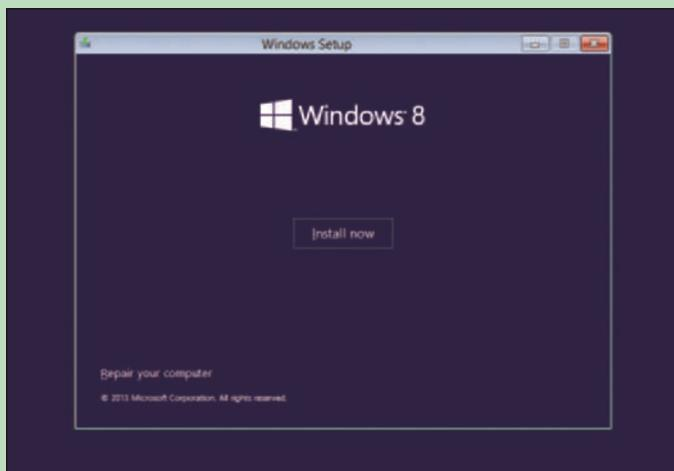
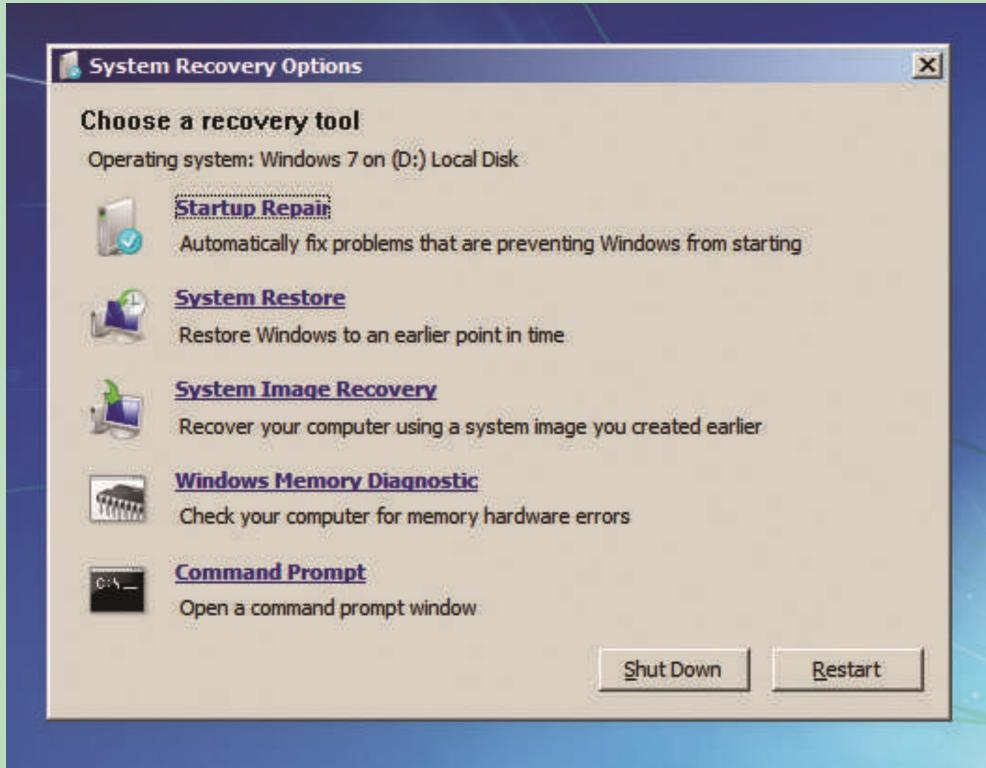
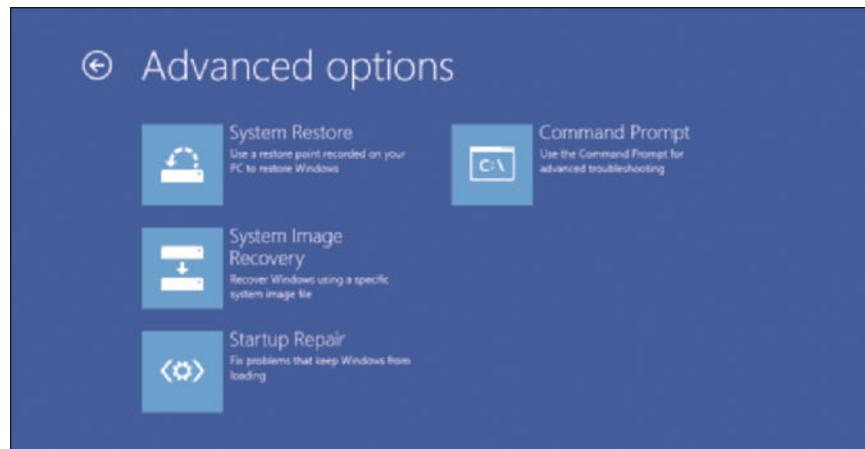

Figure 5-34 Opening menu when you boot from the Windows 8 setup DVD
Figure 5-35 Test memory using the Windows 7 System Recovery Options menu
Figure 5-37 Startup Repair on the Advanced options menu can solve problems launching Windows 8
- ▲ **Boot from the Windows setup DVD.** If Windows is not the installed operating system or you cannot boot from the hard drive, boot the computer from the Windows setup DVD. On the opening screen, select your language. On the next screen (see Figure 5-34), click **Repair your computer**. For Windows 8, in the following boxes, click **Troubleshoot** and then **Advanced options**. On the Advanced options screen, click **Command Prompt**. At the command prompt, enter **mdsched.exe** and press **Enter**. For Windows 7, select the Windows installation to repair. On the System Recovery Options screen (see Figure 5-35), click **Windows Memory Diagnostic**.
2. On the opening screen, select your language. On the next screen (refer back to Figure 5-34), click **Repair your computer**. Next click **Troubleshoot** and then **Advanced options**. On the Advanced options screen (see Figure 5-37), click **Startup Repair** and follow directions on screen.